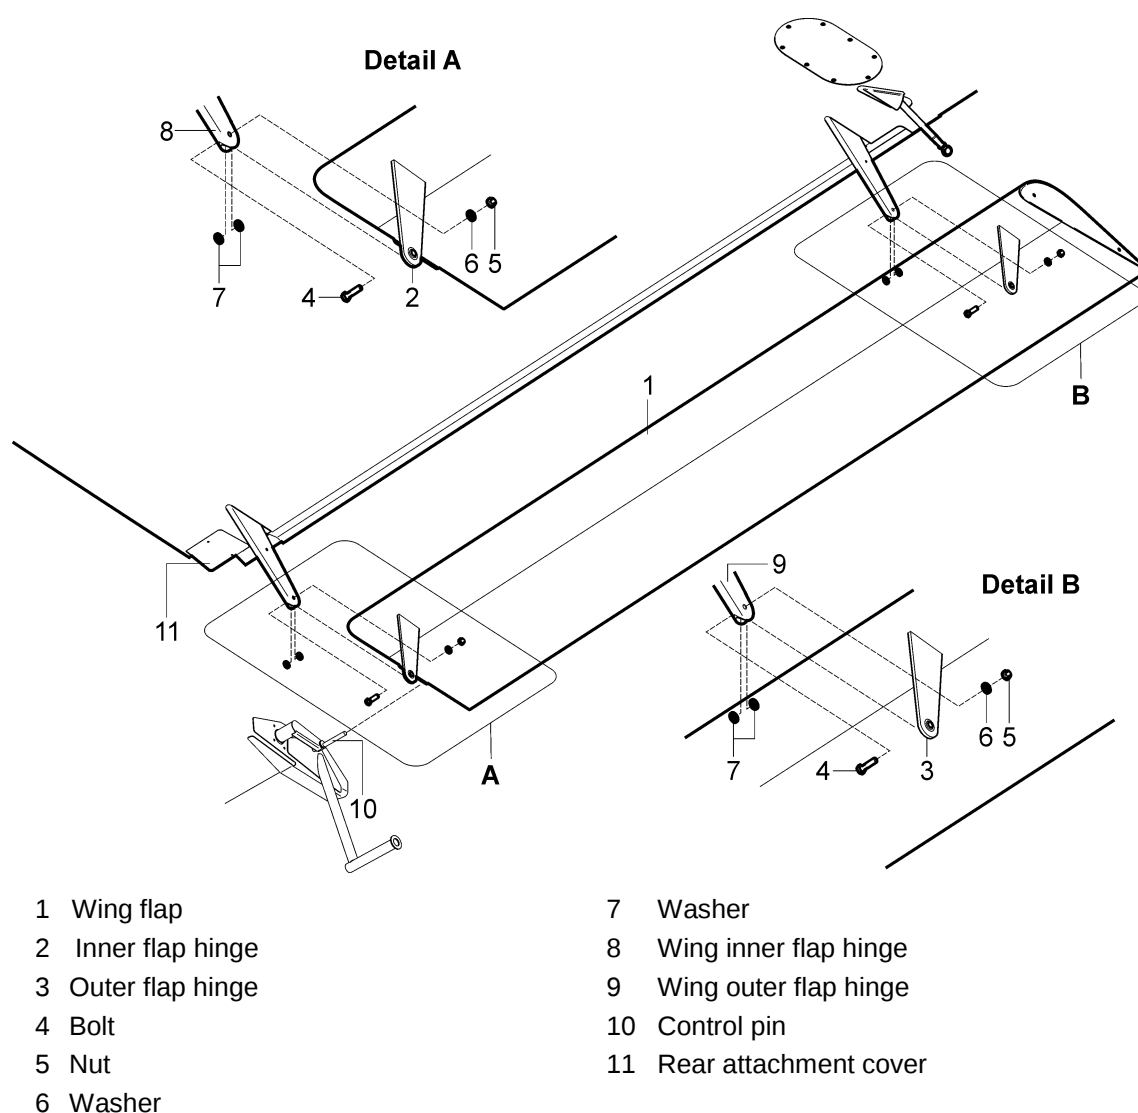

Fig. 4-7: Wing flap removal / installation
- (e) Remove cover (11, Fig. 4-7) on the bottom wing root.
- (b) Set the flap hinges (2; 3, Fig. 4-7) in to the wing hinges (8; 9) and control pin (10) in to the guiding plate.
- (c) Insert the bolts (4) and the washers (7) in to the hinges.
- (d) Install the washers (6) and the nuts (5); tight the nuts with prescribed tightening moment 5.5 – 8 Nm (50 – 70 inch lb).